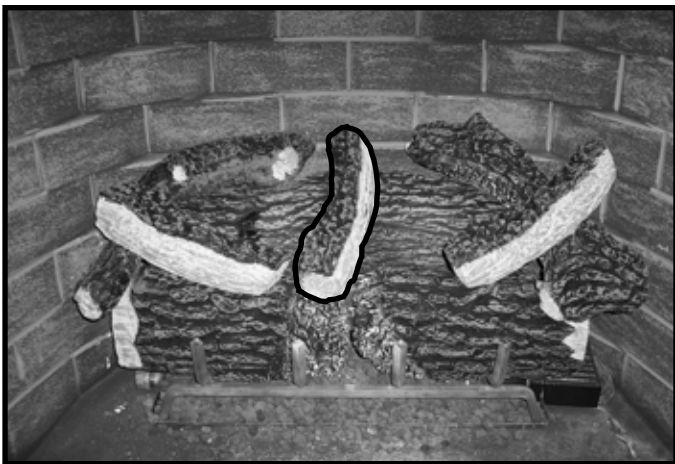

Figure 4.10 Place Top Log in Center- Carolina 36
- Place the top log on the indentations of the left front log and the back log as shown in Figure 4.10 for Carolina-36.